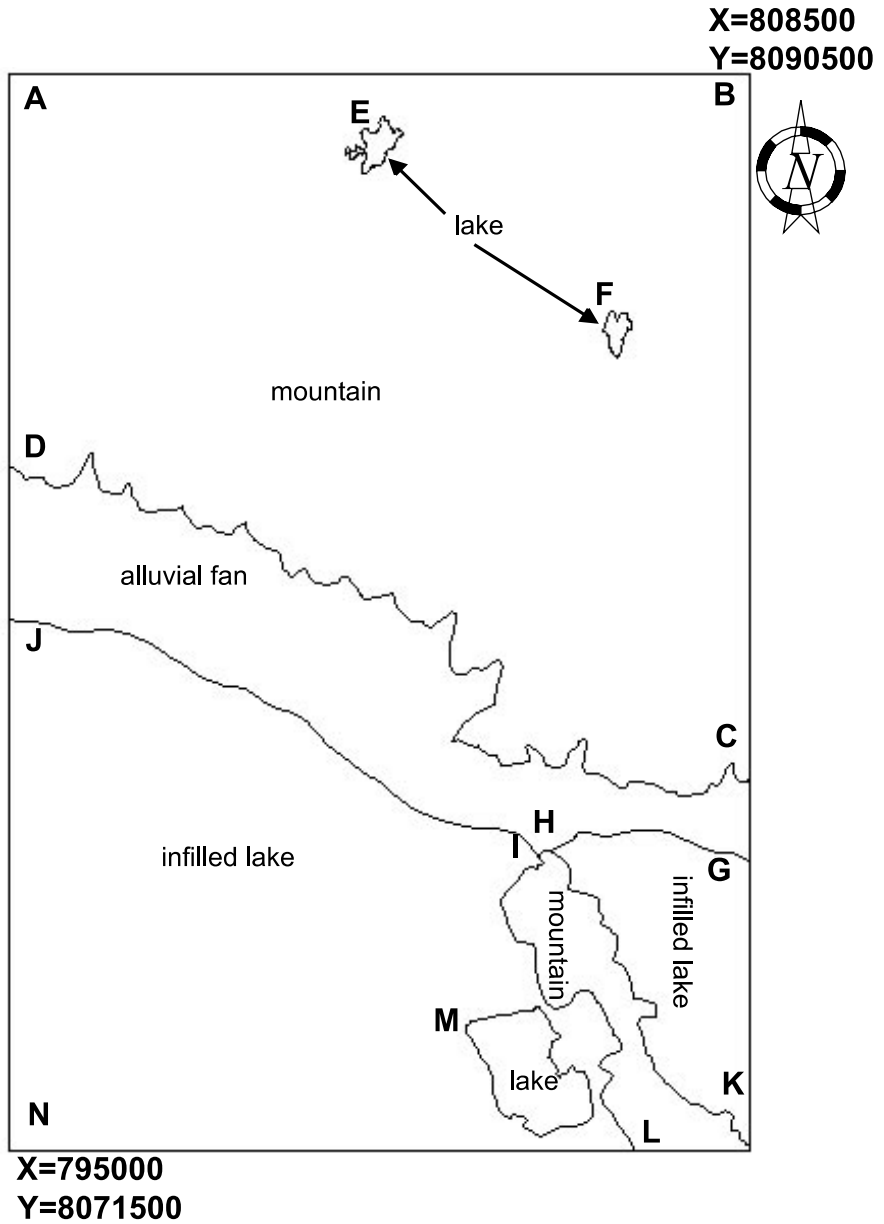

Figure 3.15: Polygon map Geomorphology.
- Make a photocopy of Figure 3.15 and fix this to the digitizer.
Figure 3.14: Self overlap error near point D in Figure 3.15. A: Original situation showing the overlap. B: Situation after automatic removal of false polygon. C: Situation after automatic splitting segments.
When you create a polygon map, the best procedure is to digitize the boundary lines of the segments in a segment map, and the labels or names of the polygons as points in a point map. Now you will digitize a point map, containing the names of the units in the map of Figure 3.15.
- Digitize a point within each of the units indicated in Figure 3.15. See section 3.2 on how to digitize points (you can also do this with the mouse pointer).
- Create a segment map Landunit2, using the coordinate system Cochabamba. Digitize the lines of Figure 3.15 in a similar way as explained in section 3.3. Digitize all segments, including the boundaries of the map, and make sure to snap all segments. All segments in the map may receive the same code: Landunit2.